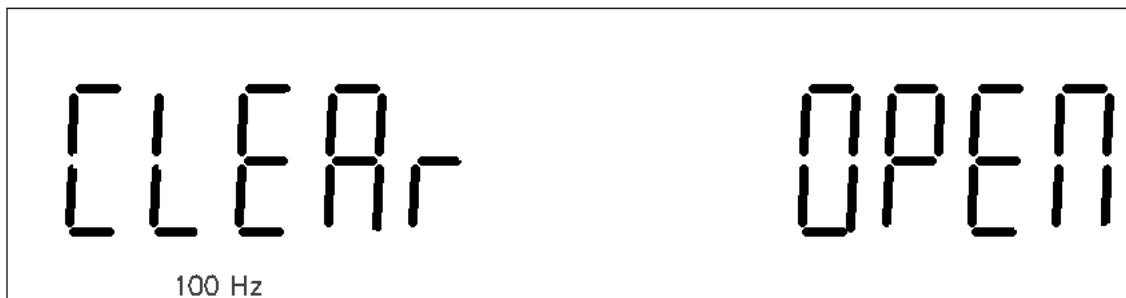

Figure 3-2 Open Correction
2. The information shown in Figure 3-2 will be displayed. "**OPEN**" flashes.